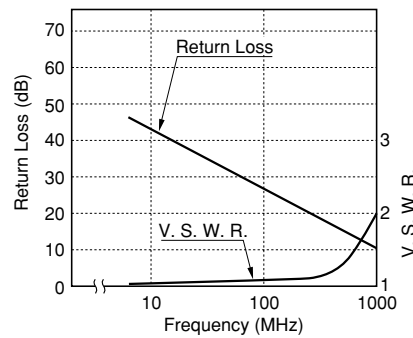

Figure 3.7 High-frequency characteristics
Figure 3.7 shows the performance of the ED2 and the EF2 series relays when a high-frequency signal is switched by the contacts of the relay. Figure 3.7 (1) shows the test circuit. Figure 3.7 (2) shows the isolation loss of the relay. Figure 3.7 (3) and Figure 3.7 (4) respectively show the insertion loss and return loss.